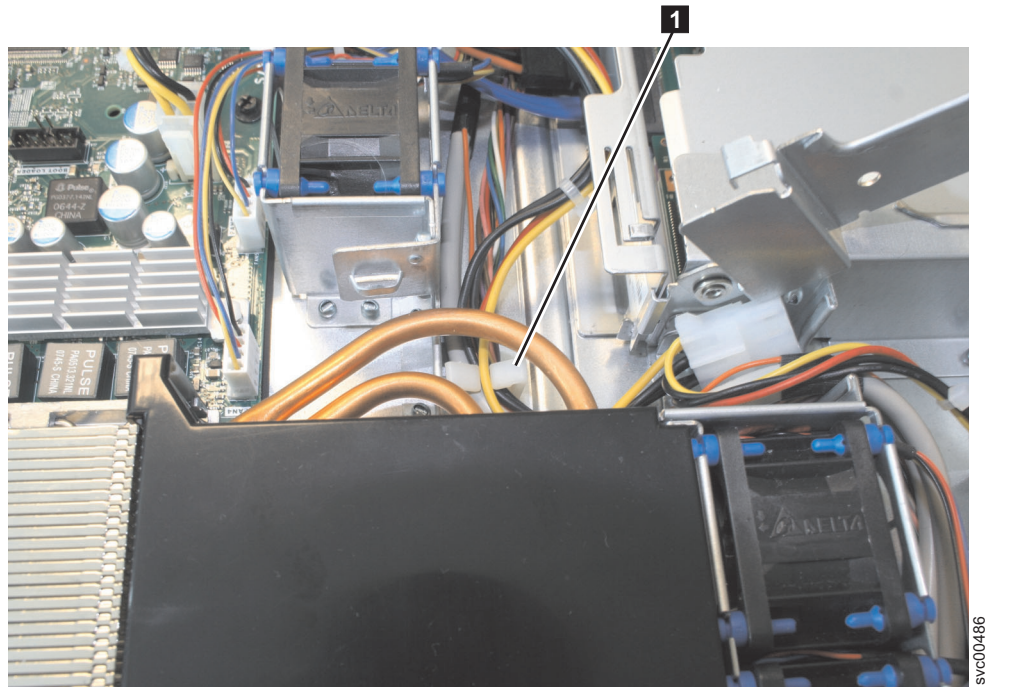

Figure 128. The retention clip for the SAN Volume Controller 2145-8A4 power-supply cables
6. Route the power-supply cable with the P5 connector to the CD/DVD interface card and secure it under the retention-clip **1**, as shown in Figure 128, on the chassis.